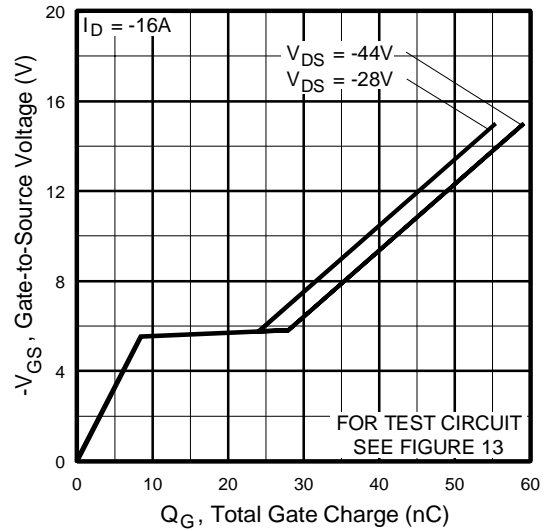

Fig 6. Typical Gate Charge Vs. Gate-to-Source Voltage
| | Q_{gd} | — | — | 29 | | $V_{GS} = -10V$, See Fig. 6 and 13 ④⑥ |